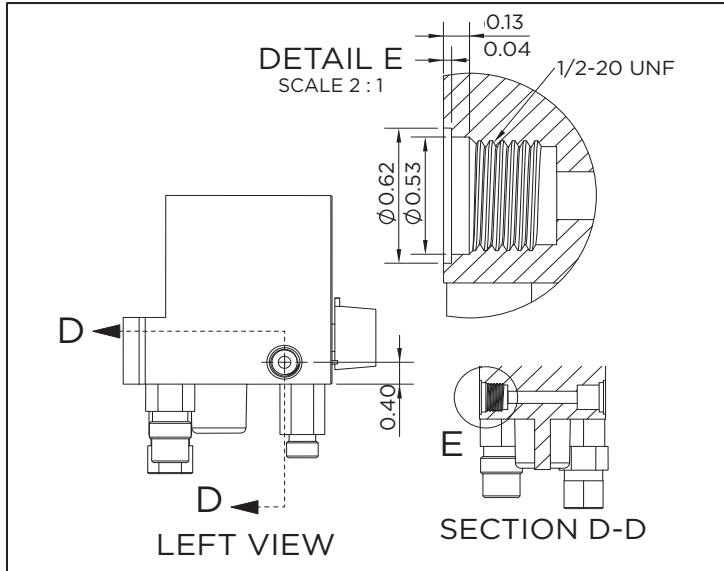

Figure 1: Blender Port Detail
3. The blender must have a primary outlet port on the left hand side of the blender with dimensions as shown in Figure 1.